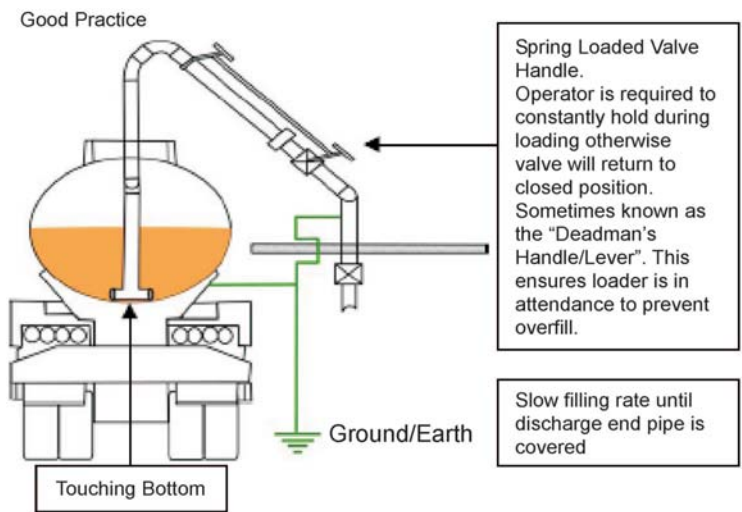

Figure 12 A top-entering loading spout should extend to the bottom of the tank truck being loaded.
- Do extend top-entering loading spouts to the bottom of the tank truck being loaded, as shown in Figure 12.